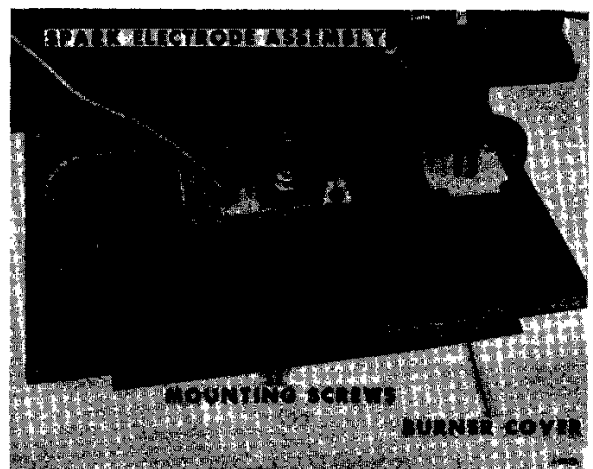
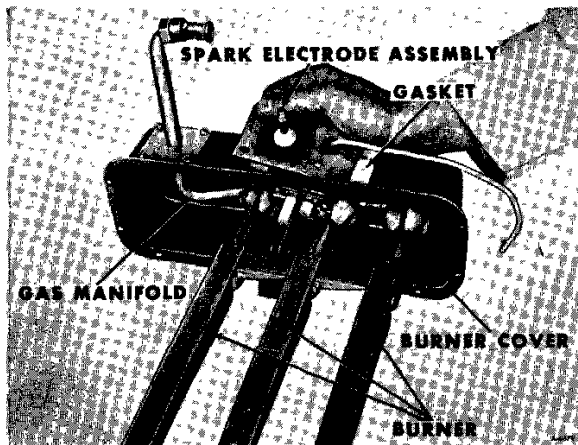

Figure 19 — Spark Electrode Installed
Figure 20 – Removing Spark Electrode Assembly
7. Remove four spark electrode mounting screws (Figure 19).
8. NOTE: Spark electrode must clear burner orifices during removal (Figure 20). Carefully move spark electrode assembly to the right. Gently tilt upward as shown, and remove from burner cover.
1. Noting the location of burner orifices (Figure 20), carefully install spark electrode assembly and gasket. Secure spark electrode assembly with four mounting screws (Figure 19).
NOTE: The burner assembly of the furnace is composed of three burners which are attached to the burner cover (Figure 20).
2. Remove burner cover and gasket from combustion chamber (Figure 19).
2. Install burner assembly and burner cover and gasket in combustion chamber (Figure 19).